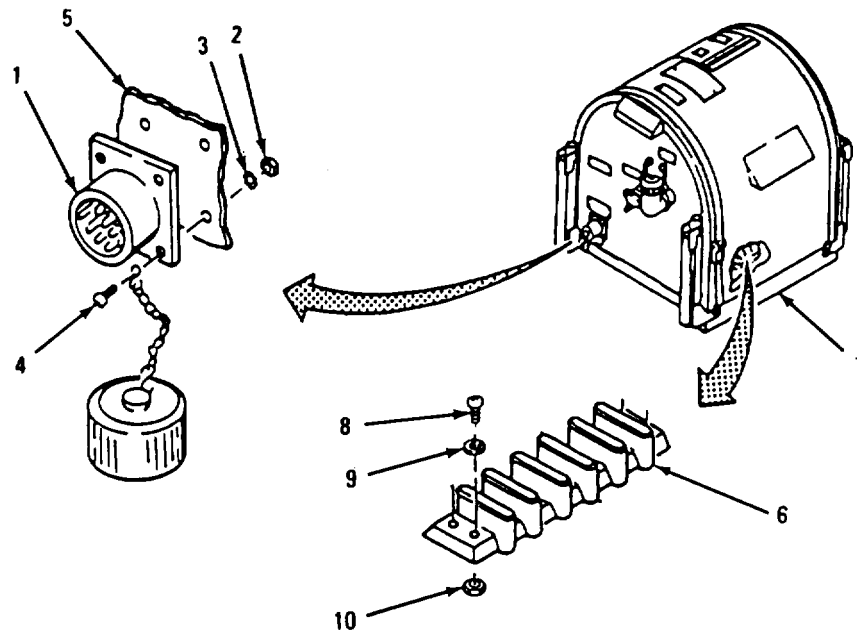

Figure 4-9. Electrical Connector and Terminal Block Replacement
(1) Inspection. (Refer to Figure 4-9)